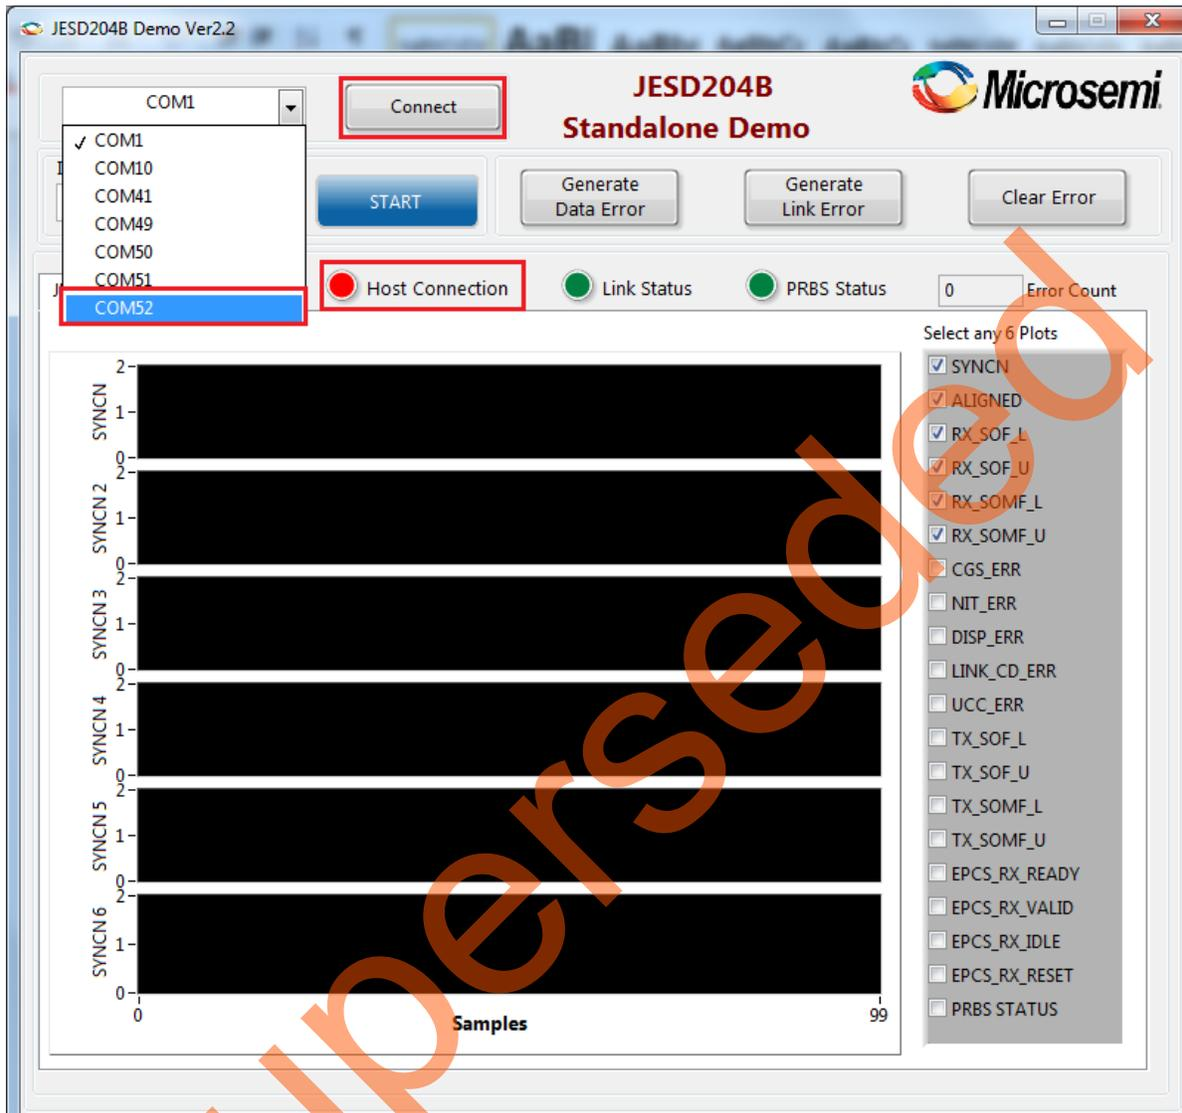

Figure 13 • Serial Port Configuration
3. Click **Connect** to connect the host PC to the hardware through the selected port, as shown in Figure 13 on page 18.